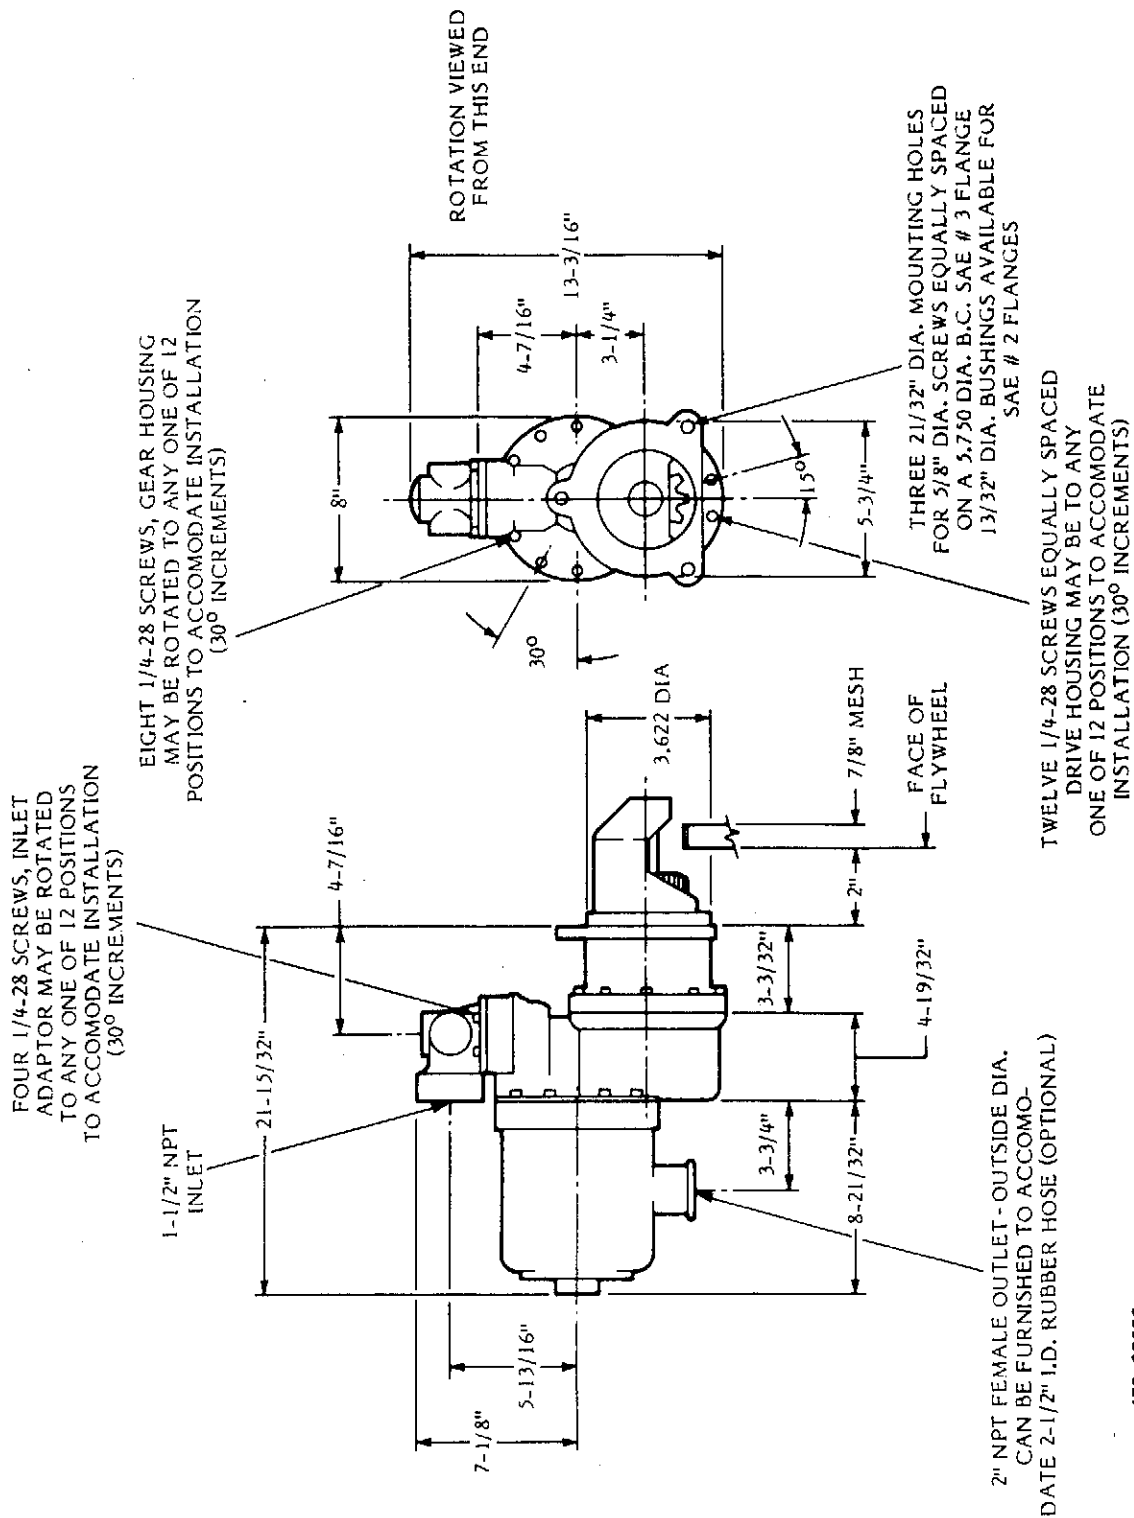

Figure 3.1. Starter Orientation
Before installing the starter it should be noted that the three (3) major housings of the starter may be rotated a full 360 degrees. Refer to figure 3.1.
- 2. Align the three (3) bolt holes in the mounting flange with the proper bolt holes in the flywheel housing. Install and properly torque the three bolts.